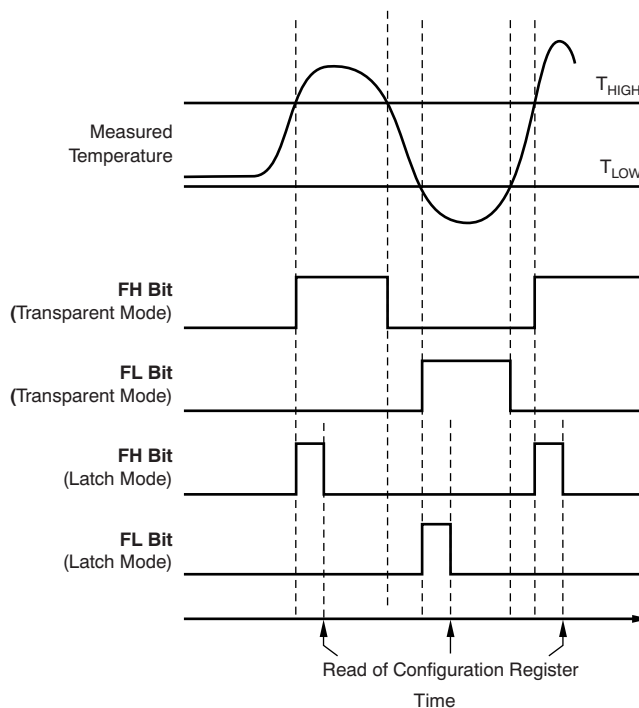

Figure 13. Temperature Flag Functional Diagram
The TMP104 contains a watchdog function that monitors device temperature and compares the result to the values stored in the temperature limit registers (T_{HIGH} and T_{LOW}) in order to determine if the device temperature is within these set limits. If the temperature of the TMP104 becomes greater than the value in the T_{HIGH} register, then the flag-high bit (FH) in the Configuration Register is set to '1'. If the temperature falls below value in the T_{LOW} register, then the flag-low bit (FL) is set to '1'. If both flag bits remain '0', then the temperature is within the temperature *window* set by the temperature limit registers, as shown in Figure 13.
The T_{HIGH} and T_{LOW} registers are used to store the temperature limit thresholds for the TMP104 watchdog function. At the end of each temperature measurement, the TMP104 compares the temperature results to each of these limits. If the temperature result is greater than the T_{HIGH} limit, then the FH bit in the Configuration Register is set to '1'. If the temperature result is less than the T_{LOW} limit, then the FL bit in the Configuration Register is set to '1'; see Figure 13.